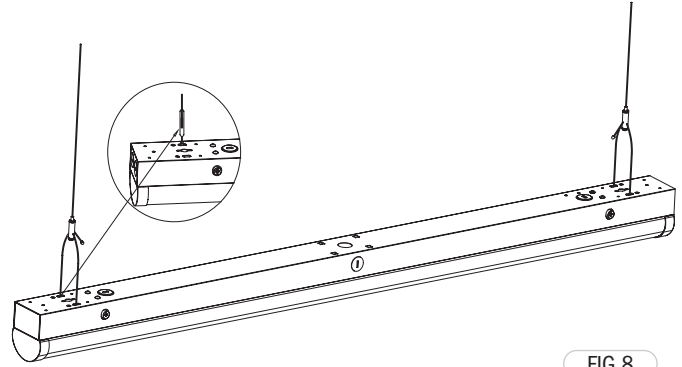

FIG. 8
② To hang the Housing, route and affix each evenly measured aircraft cable to the openings on the back of the fixture. (Figure 8)